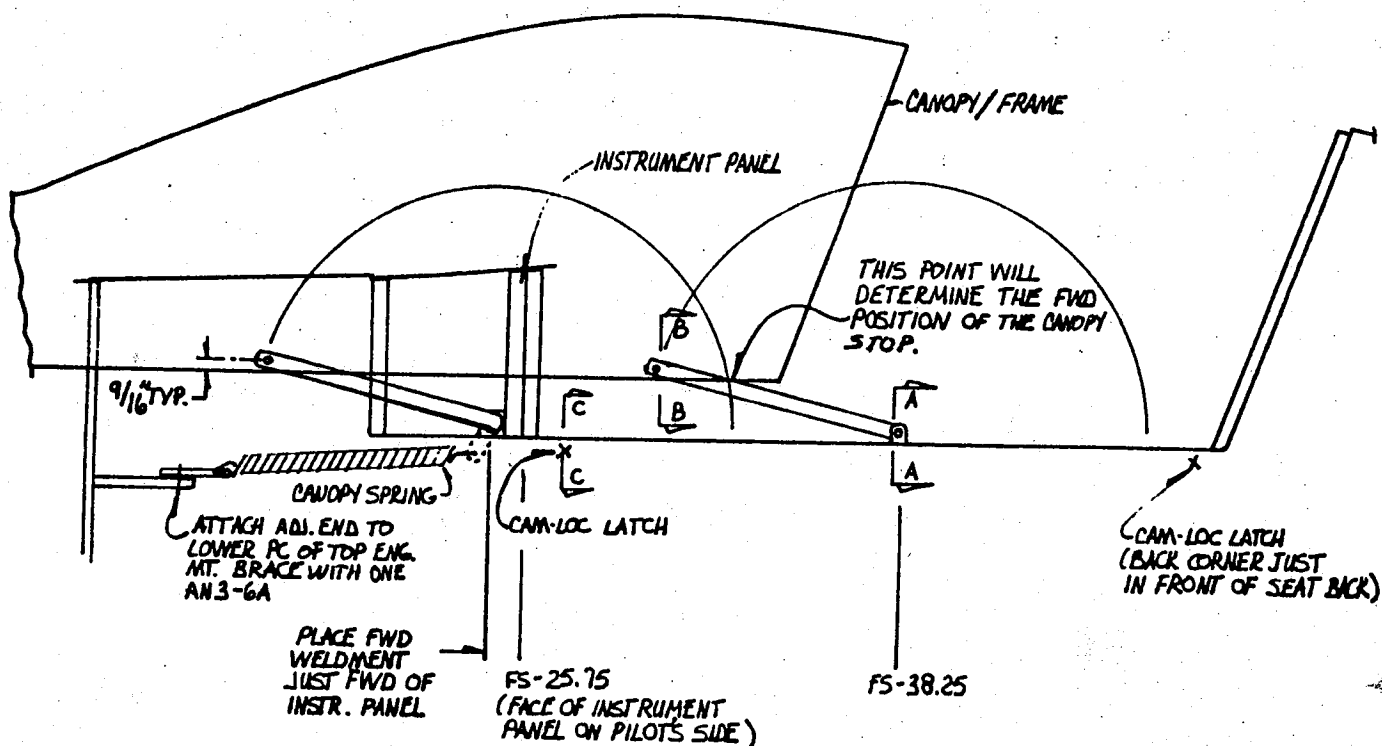

fig.235
38. The standard approach is to latch all four corners down with cam-loc over center safety latches. See fig. 235. The latches are mounted just under the longerons with the "strikes" mounted to the inner canopy channel sides.